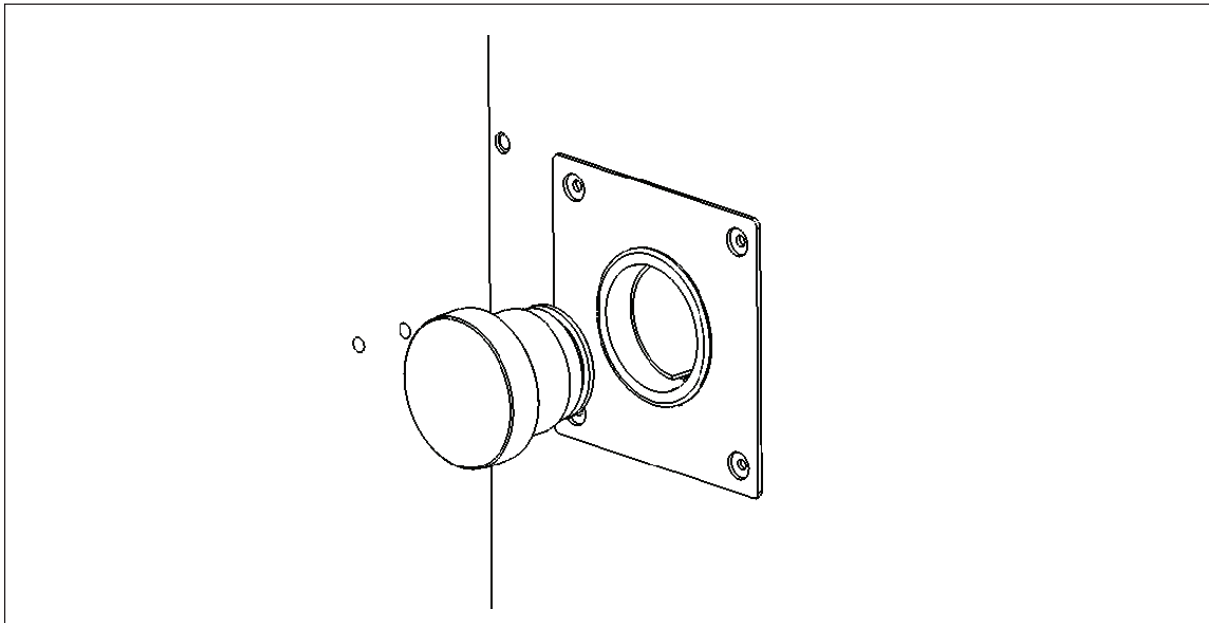

Fig. 12-4: Oxygen sensor rear access cover
1. Pull the rear access cover (see Fig. 12-4 on p. 76) off the rear outside wall of the incubator to gain access to the oxygen sensor.
1. Remove the hydrophobic filter holder assembly (see Fig. 12-4 on p. 76) by unscrewing it (counter-clockwise).